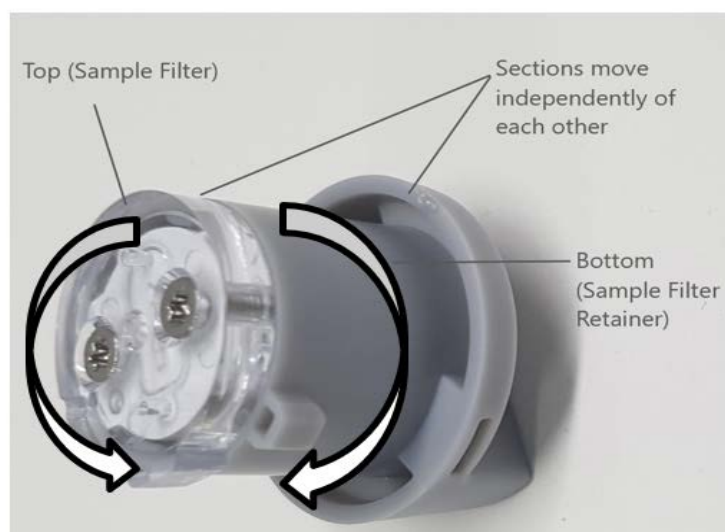

Figure 5: Sample Filter Rotation Orientation
2. Remove the Sample Filter Assembly from the filter bag. It comprises two parts affixed together. The first part is the Sample Filter itself (refer to Figure 5 Top item) and the second part is the Sample Filter Retainer (refer to Figure 5 Bottom item).
3. Insert the Sample Filter into the Sample Filter Retainer. Refer to Figure 5: Sample Filter Rotation Orientation.